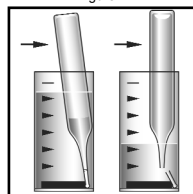

Figure 3
For CHEMetrics photometers, follow the **Setup and Measurement Procedures** in the operator's manual. For spectrophotometers, set the wavelength to 815 nm. A sealed ZERO ampoule is supplied in this kit for zeroing when the sample is colorless and not turbid. For improved accuracy with colored or turbid samples, Sample Zeroing Accessory Pack, Cat. # A-0503 is recommended. Using the sample cup, snap the tip of the A-0503 ampoule in the sample (see figure 3 below). Invert the ampoule to mix. Dry the ampoule and use it in place of the supplied ZERO ampoule to zero the instrument.
4. Place the Vacu-vial ampoule, tip first, into the sample cup. Snap the tip. The ampoule will fill leaving a bubble for mixing (fig. 3).